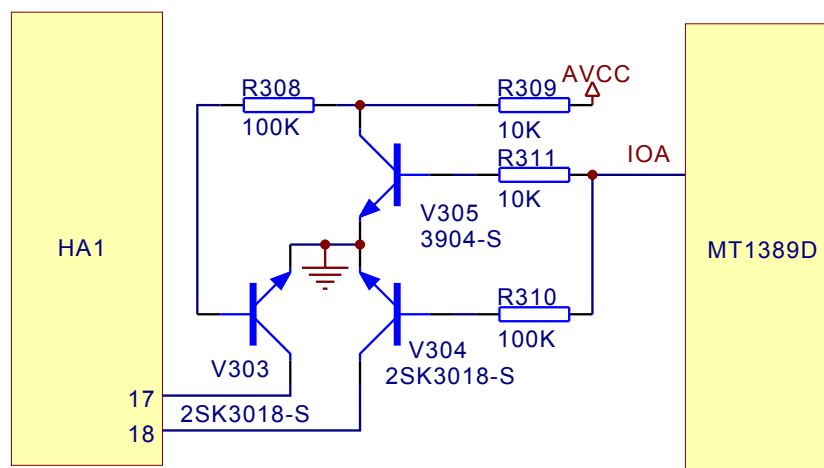

Figure 3.2.5.1 CD/DVD conversion circuit diagram
1. CD/DVD conversion circuit is shown as in the following figure 3.2.5.1: